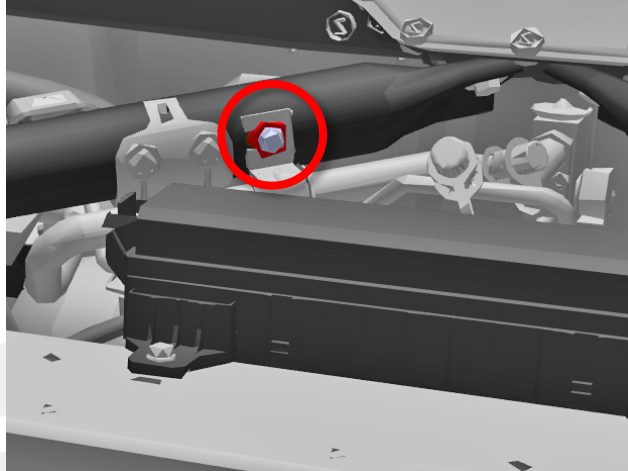

Figure 3
5. Release the upper fastener that secures the A/C line (torque 6.5 Nm) (Figure 3).